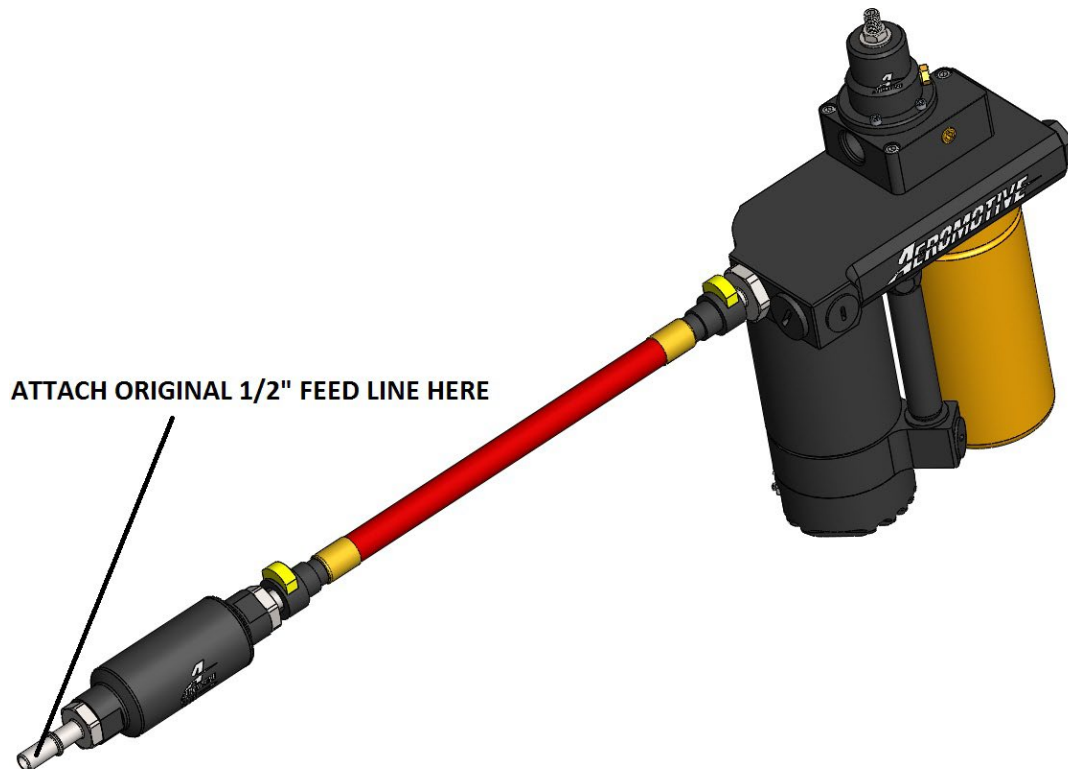

FIGURE 1-6
8. Attach the filter line assembly to the fuel pump inlet. **FIGURE 1-6**